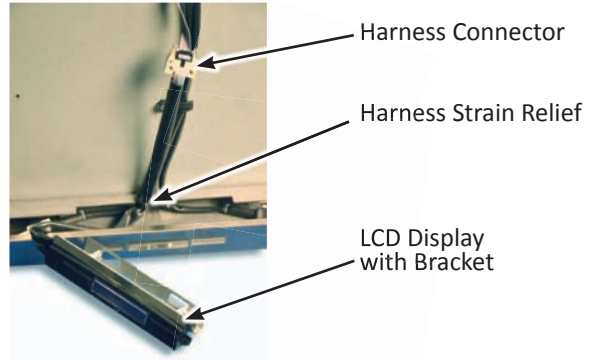

Figure 3
6. Remove strain relief from the control panel. See figure 3.
7. Remove two (2) T10 Torx screws that mount the display to the bracket.